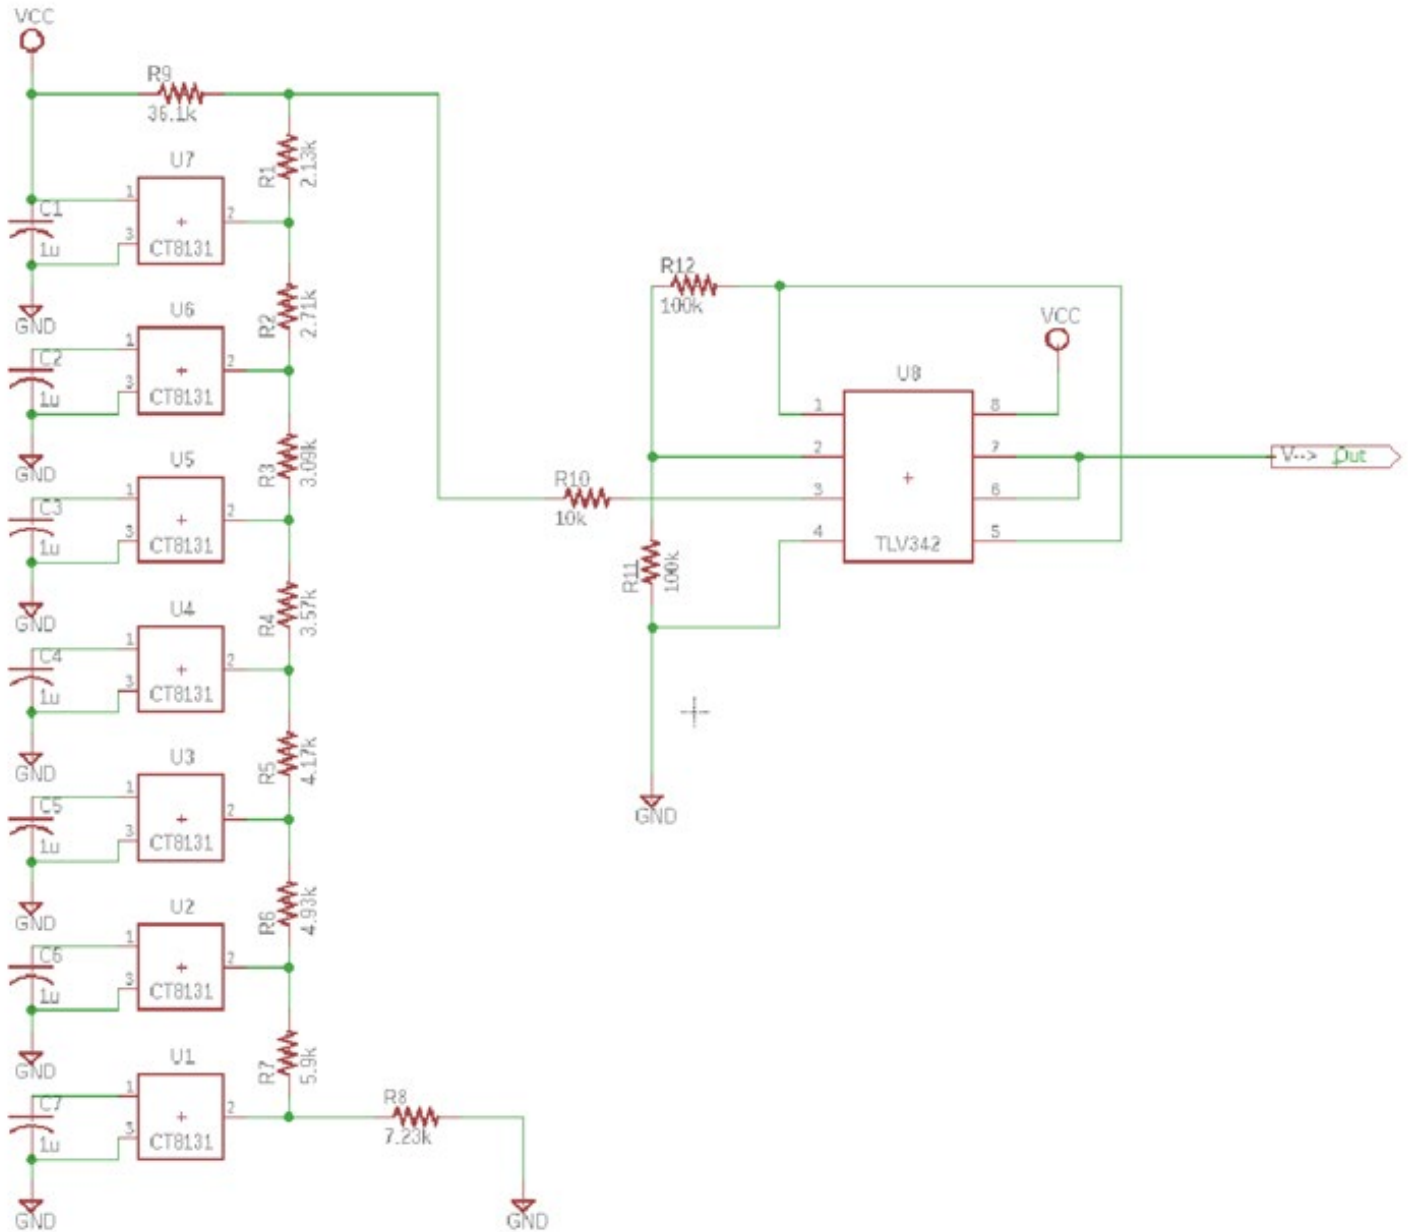

Figure 1 Schematic Diagram of a Point-Level Liquid Sensor Implemented with CT8131BV TMR Digital Latches.
Figure 1 is a schematic diagram of a point-level liquid sensor using Crocus' CT8131BV devices. In this example, a total of seven (7) CT8131BVs are used to create seven (7) sensing points to detect the level of fluid in a tank. 1 is the Bill of Materials (BoM) for this implementation of the seven (7) point-level liquid sensor. It is recommended that a bypass capacitor of 1.0  $\mu\text{F}$  be added to the supply voltage pin (VCC) of TLV342.